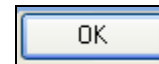

Figure 33.2.3
3. To save the entry click on the **OK** button (Figure 33.2.3).